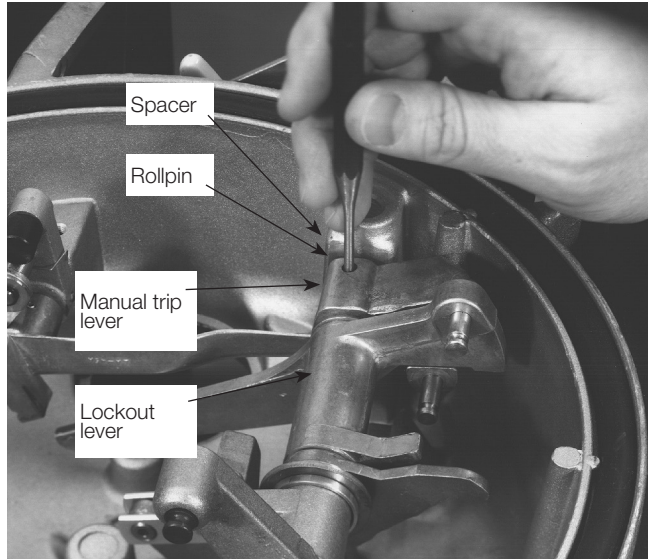

Figure 15. Removal of rollpin, lockout lever removal
6. Drive out rollpin that secures lockout lever, see Figure 15.
4. Position manual trip lever and insert operating lever. Secure with rollpin, see Figure 15.